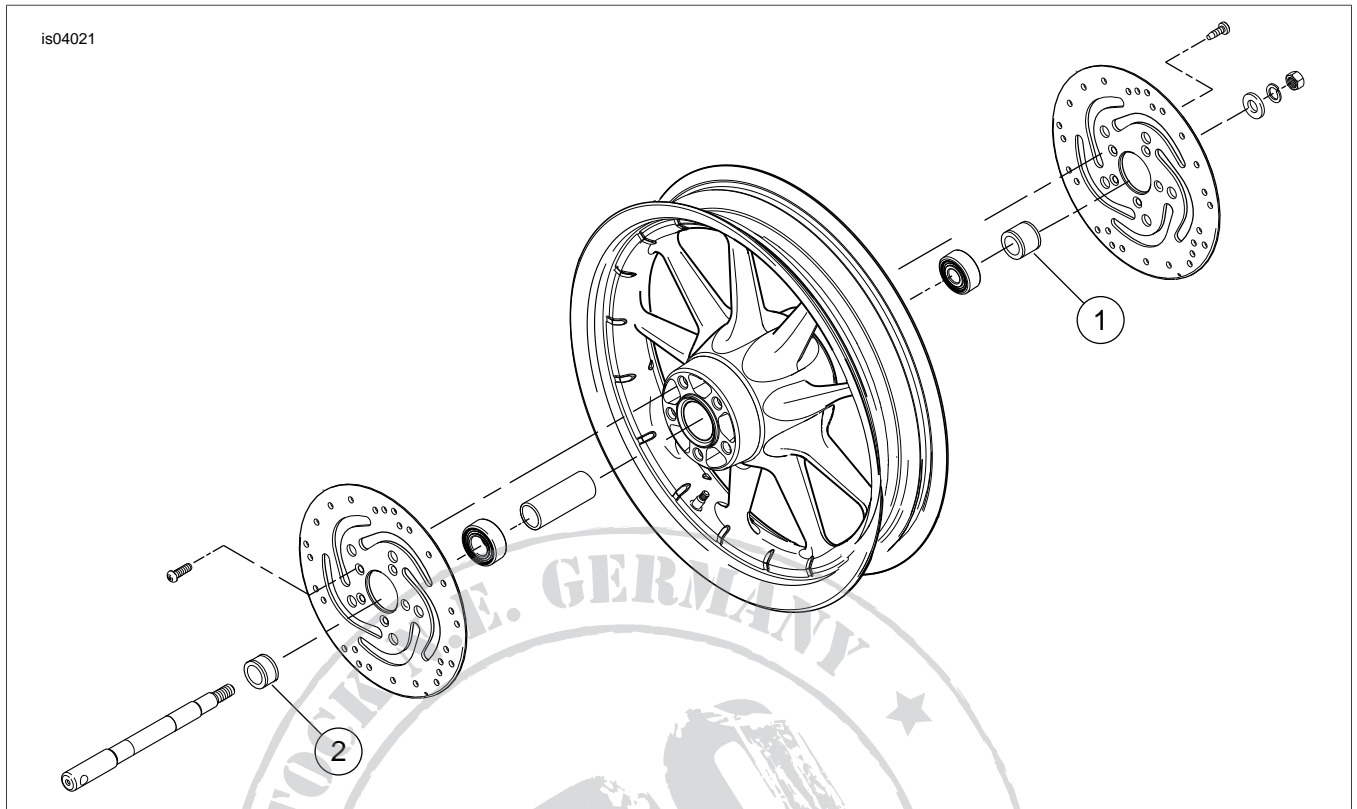

Figure 3. Chrome Front Wheel Spacers for Touring Models
See Figure 3, and Table 1
1. See Figure 3. and Table 1. Place wheel into position between forks with the valve stem on the right side of the vehicle.